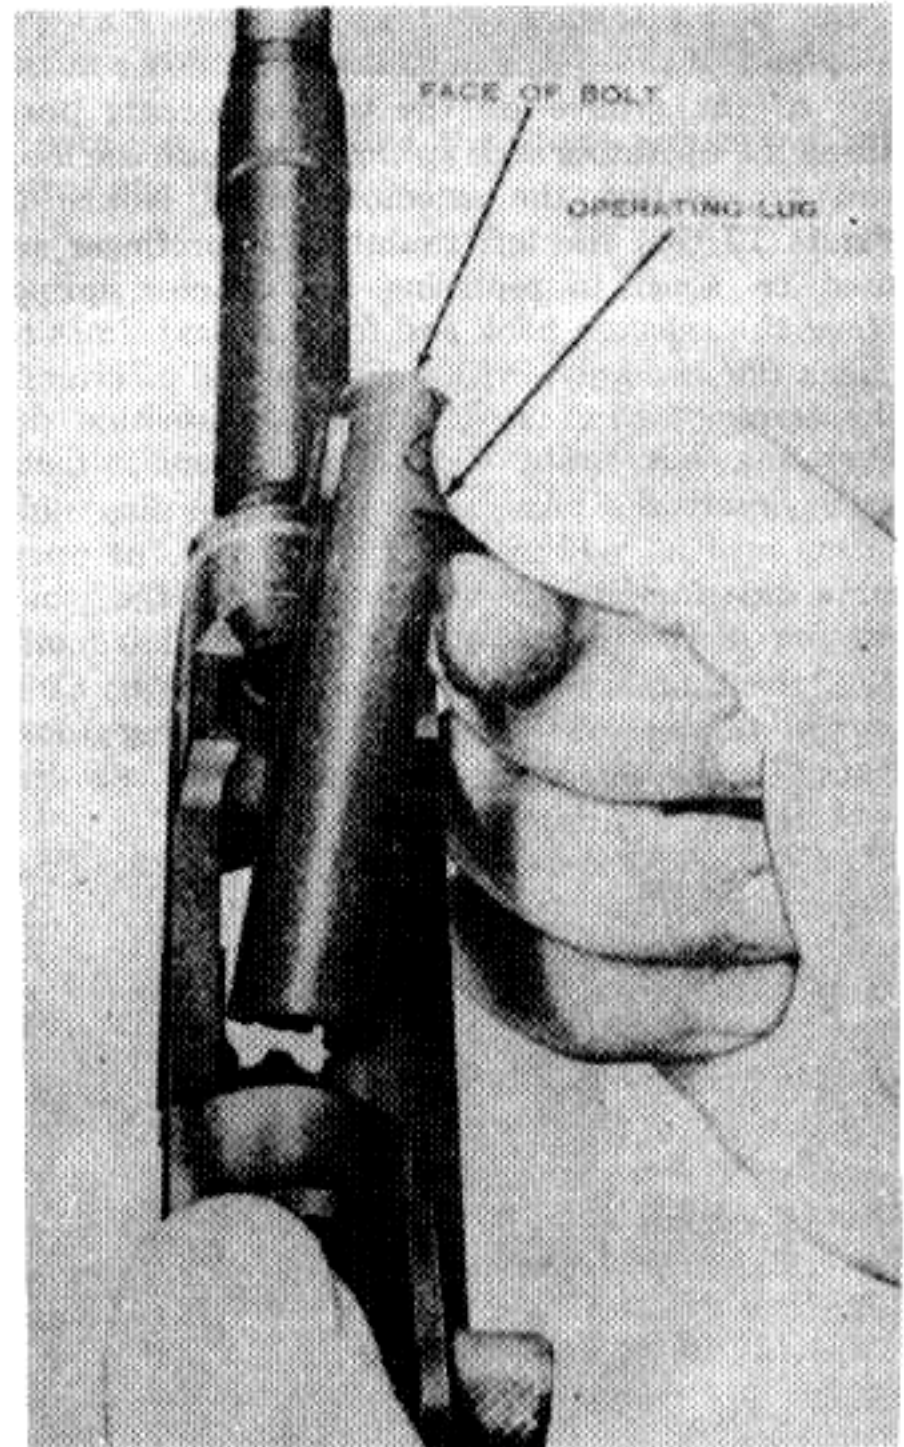

Figure 13. Removing the bolt.
*k.* Hold the carbine as in *j* above. Grasp the operating lug of the bolt with the right thumb and forefinger and draw the bolt to the rear until its face is just back of the locking recesses. Rotate the bolt to the left until the operating lug is straight up, disengaging the left locking lug on the bolt. Then rotate the bolt to the right until it is level. Raise the bolt to an angle of about 45 degrees and remove it from the receiver (Fig. 13).